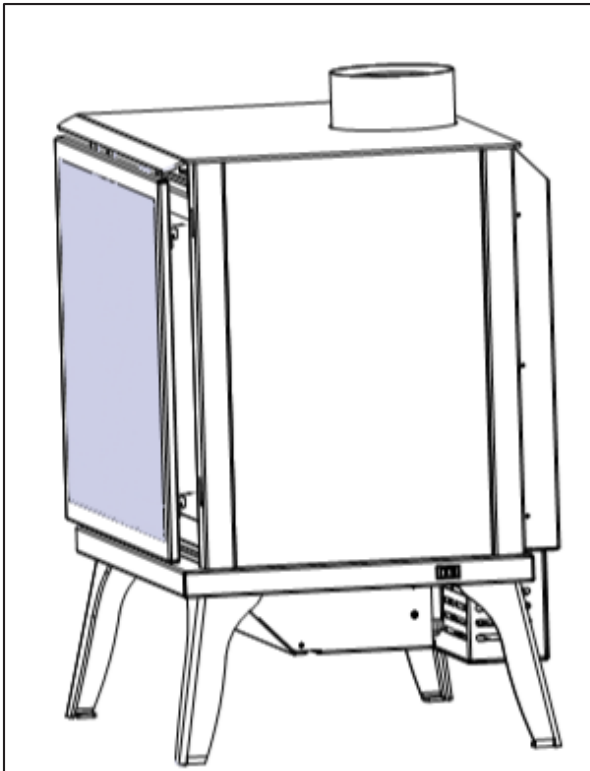

Figure 6.1 - Safety Screen Barrier Installation
1. Locate the (4) slots located on each side of the gas stove frame.
3. Raise the safety screen barrier slightly into slots and allow the tabs to lower into position. See Figure 6.1.